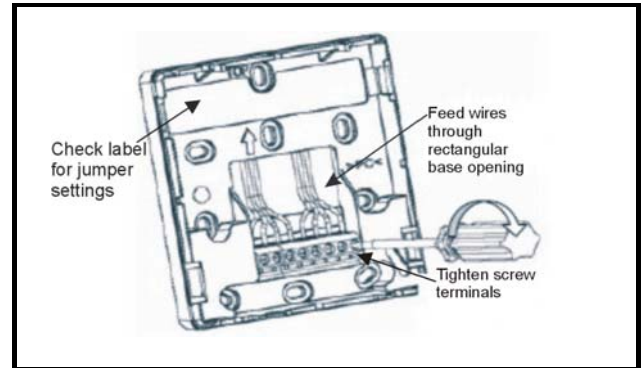

Figure 1-1 - Sensor Base Opening With Screw Terminals
2. Feed the power and signal wires through the rectangular opening in the base (*Figure 1-1*).